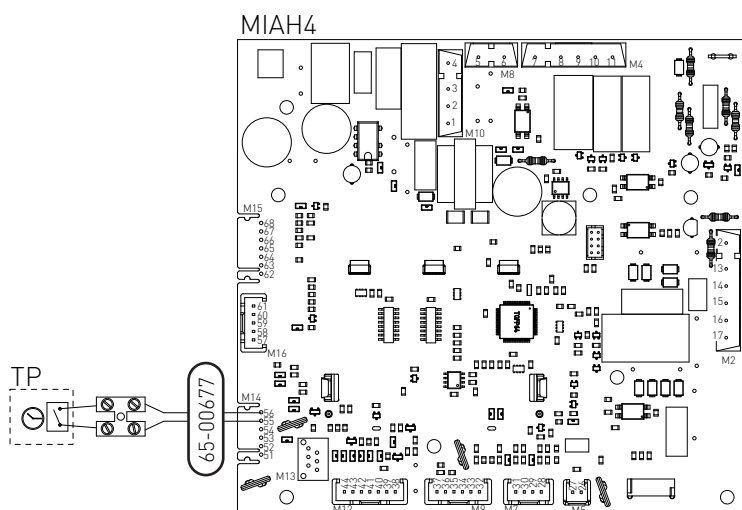

fig. 13
- › After removing the crankcase, connect the items below to the electronic board (see fig. 13):